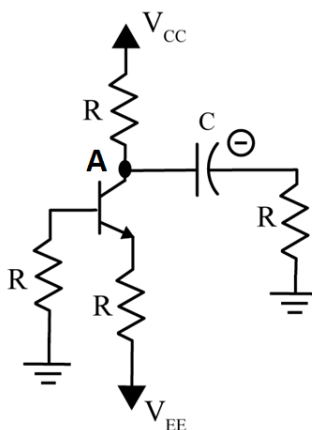

Figure 3: Biasing the transistor circuit.
- 3) Next, build the circuit subsystem shown in Figure 3. Note that the collector is connected to the +15 V source,  $V_{CC}$ , through a  $1\text{ k}\Omega$  resistor. The emitter is connected to the -15 V source,  $V_{EE}$ , through a  $1\text{ k}\Omega$  resistor. The base is connected through a resistor to ground. The collector is also connected through an electrolytic capacitor (note the negative sign!) and resistor to ground. There is a minus sign on the capacitor can and the shorter leg represents the negative terminal.
- 4) To verify that the circuit is biased correctly, start the NI MyDAQ Digital Multimeter and set it to measure DC Voltage. Measure between node A and ground as shown on the circuit in Figure 3. If you have done everything correctly, this measurement should be approximately **3V**. **Do not move on until this is correct!**